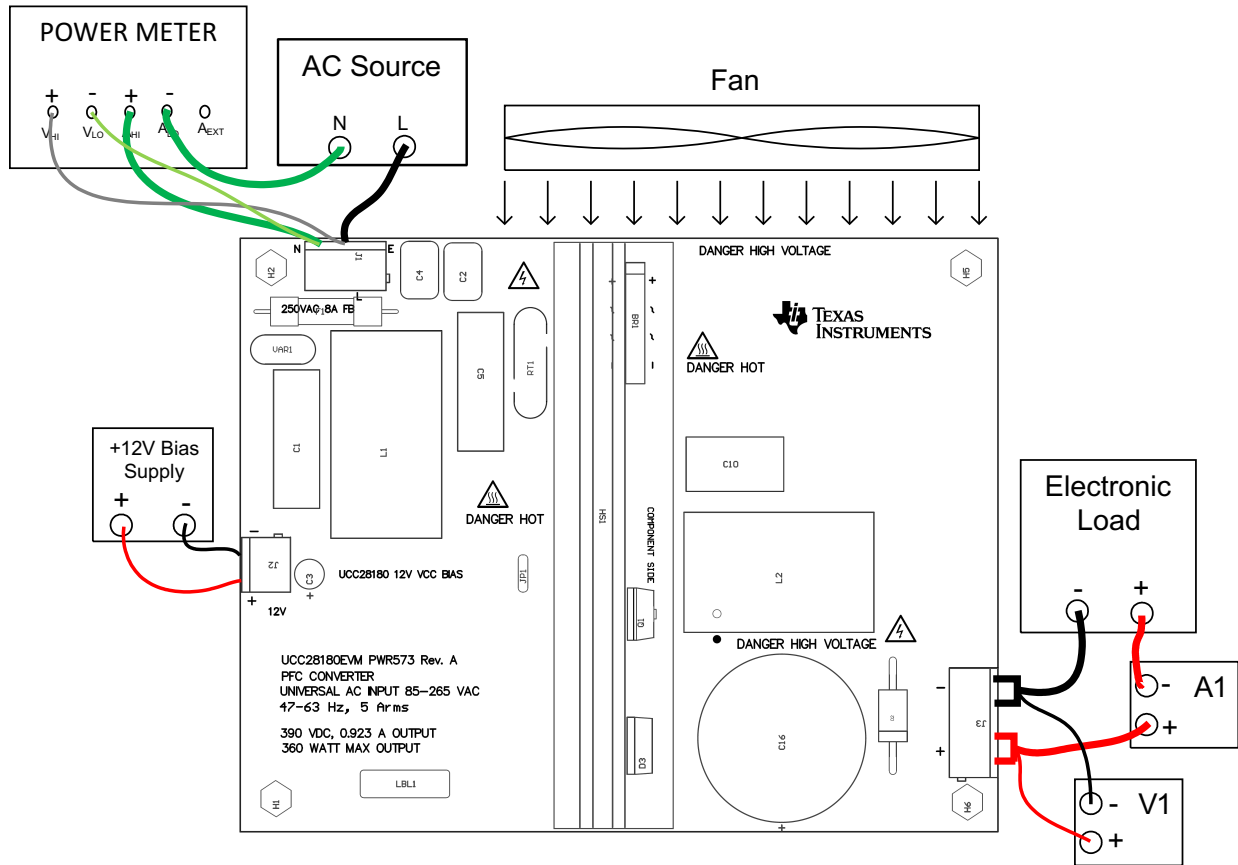

Figure 2. UCC28180EVM-573 Recommended Test Set Up
Figure 2 shows the basic test set up recommended in order to evaluate the UCC28180EVM-573
AC Voltage Source: The AC input source shall be capable of supplying between 85 V_{AC} and 265 V_{AC} at no less than 8 A peak. Connect the AC source to the L and N terminals of J1 on the EVM as shown in Figure 2. For accurate efficiency calculations, a power meter should be inserted between the neutral line of the AC source and the neutral terminal of the EVM. For highest accuracy, connect the voltage terminals of the power meter directly across the line and neutral terminals of the EVM.
12-V Bias Supply: The bias supply to the device shall be capable of supplying up to 12 V_{DC} at no less than 10 mA. Connect the bias supply to the – and + terminals of J2, UCC28180 12-V VCC bias, as shown in Figure 2.
Output Load: A programmable electronic load set to constant current mode and capable of sinking 0 to 1 A at 390 V_{DC} shall be used. Connect the load to J3, as shown in Figure 2.
Fan: A fan, capable of 200 LFM to 400 LFM, should be used to maintain component temperatures within safe operating ranges at all times during operation of the UCC28180EVM-573. Position the fan so as to blow along the length of the heatsink as shown in Figure 2.
- (a) Connect the equipment as shown in Figure 2.
1. For load regulation, use the test set up shown in Figure 2.
2. For line regulation, use the test set up shown in Figure 2.